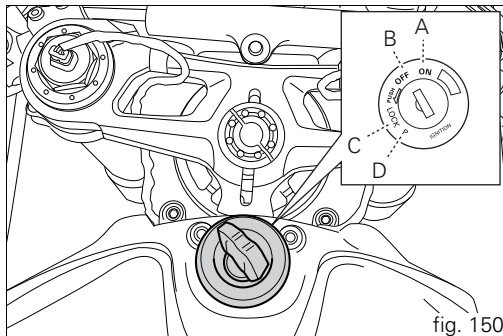

fig. 150
2) Check that the stop switch (2, fig. 150) is positioned to  (RUN), then press the starter button (3, fig. 150).